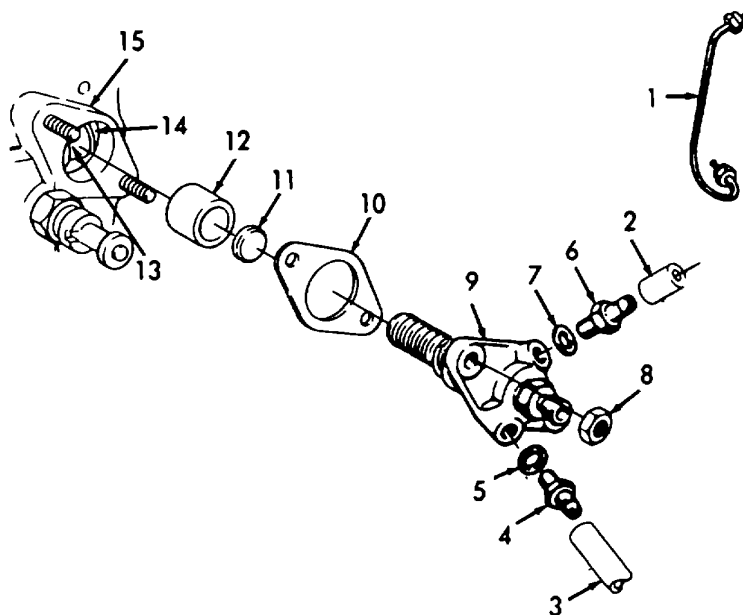

Figure 5-8. Fuel Injection Pump Removal/Installation.
b. Removal. (Refer to figure 5-8).
- (1) Disconnect fuel pressure line (1).
- (2) Remove hose (2) and hose (3). Install fuel shutoff clamp on hose (3).
- (3) Remove hose connection (4) and packing (5). Discard packing (5).
- (4) Remove vent valve (6) and packing (7). Discard packing (7).
- (5) Move throttle control lever to the START position.
- (6) Remove two nuts (8) and injection pump (9).
- (7) Remove shim (10), spacer (11), and tappet (12).
- (1) Refer to figure 5-8 and install tappet (12) into crankcase (15).
- (2) Turn engine by hand until tappet (12) reaches the lowest point on the camshaft (14).
- (3) Position throttle control hand lever so that governor lever slot (13) lies exactly in the center of the tappet bore.
- (4) Install spacer (11), with the flat surface toward the injection pump (9).
- (5) Place shim (10) on crankcase (15) studs.
- (6) Position control sleeve on injection pump (8) so that control sleeve pin enters slot in governor lever.
- (7) Insert injection pump (9) carefully without moving the control sleeve out of its proper position.